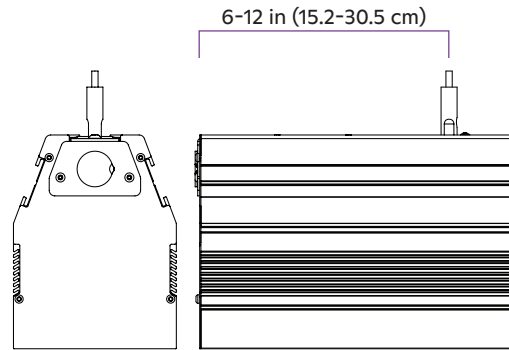

fig. 5
- a. Determine support locations to structure based on fixture lengths, and install the supports. For spacing, see fig. 5.
- a. Position two t-studs in the sliding channel on top of the fixture. The two studs should be within 6 to 12 in (15.2-30.5 cm) from each end of the fixture. For spacing, see fig. 5.